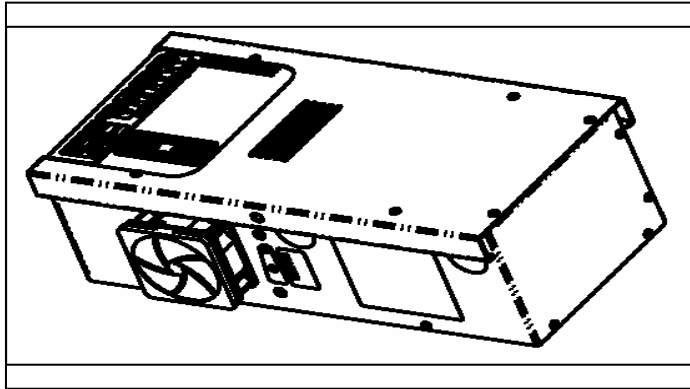

Fig 16: MC2 Power System Series 35 Amp-Hour
- (1) Power system unit (Fig 16)